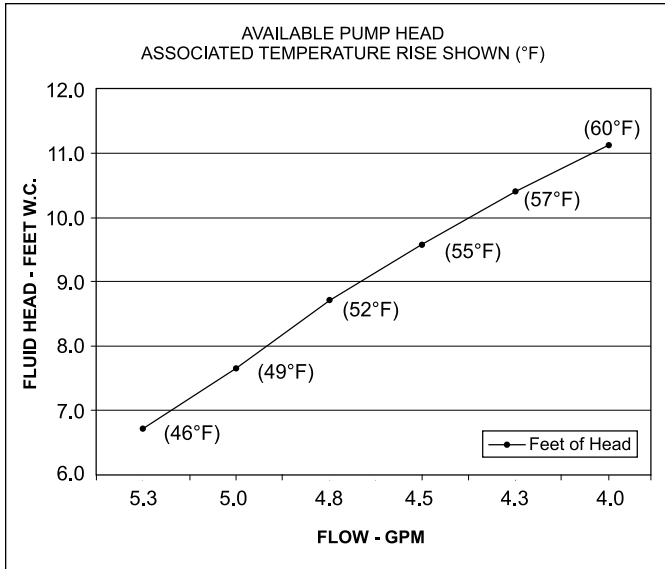

Figure 11. Available Pump Head.
5.1 Mascot II Heating System Pump Capacity (see Figure 11)
Mascot II boiler must be located within 15 feet (4.6m) of the supply and return header (or the hydraulic separator). The pump is sized for a maximum of 30 feet (9.1m) of piping and the headloss of the boiler only (see Figure 11).